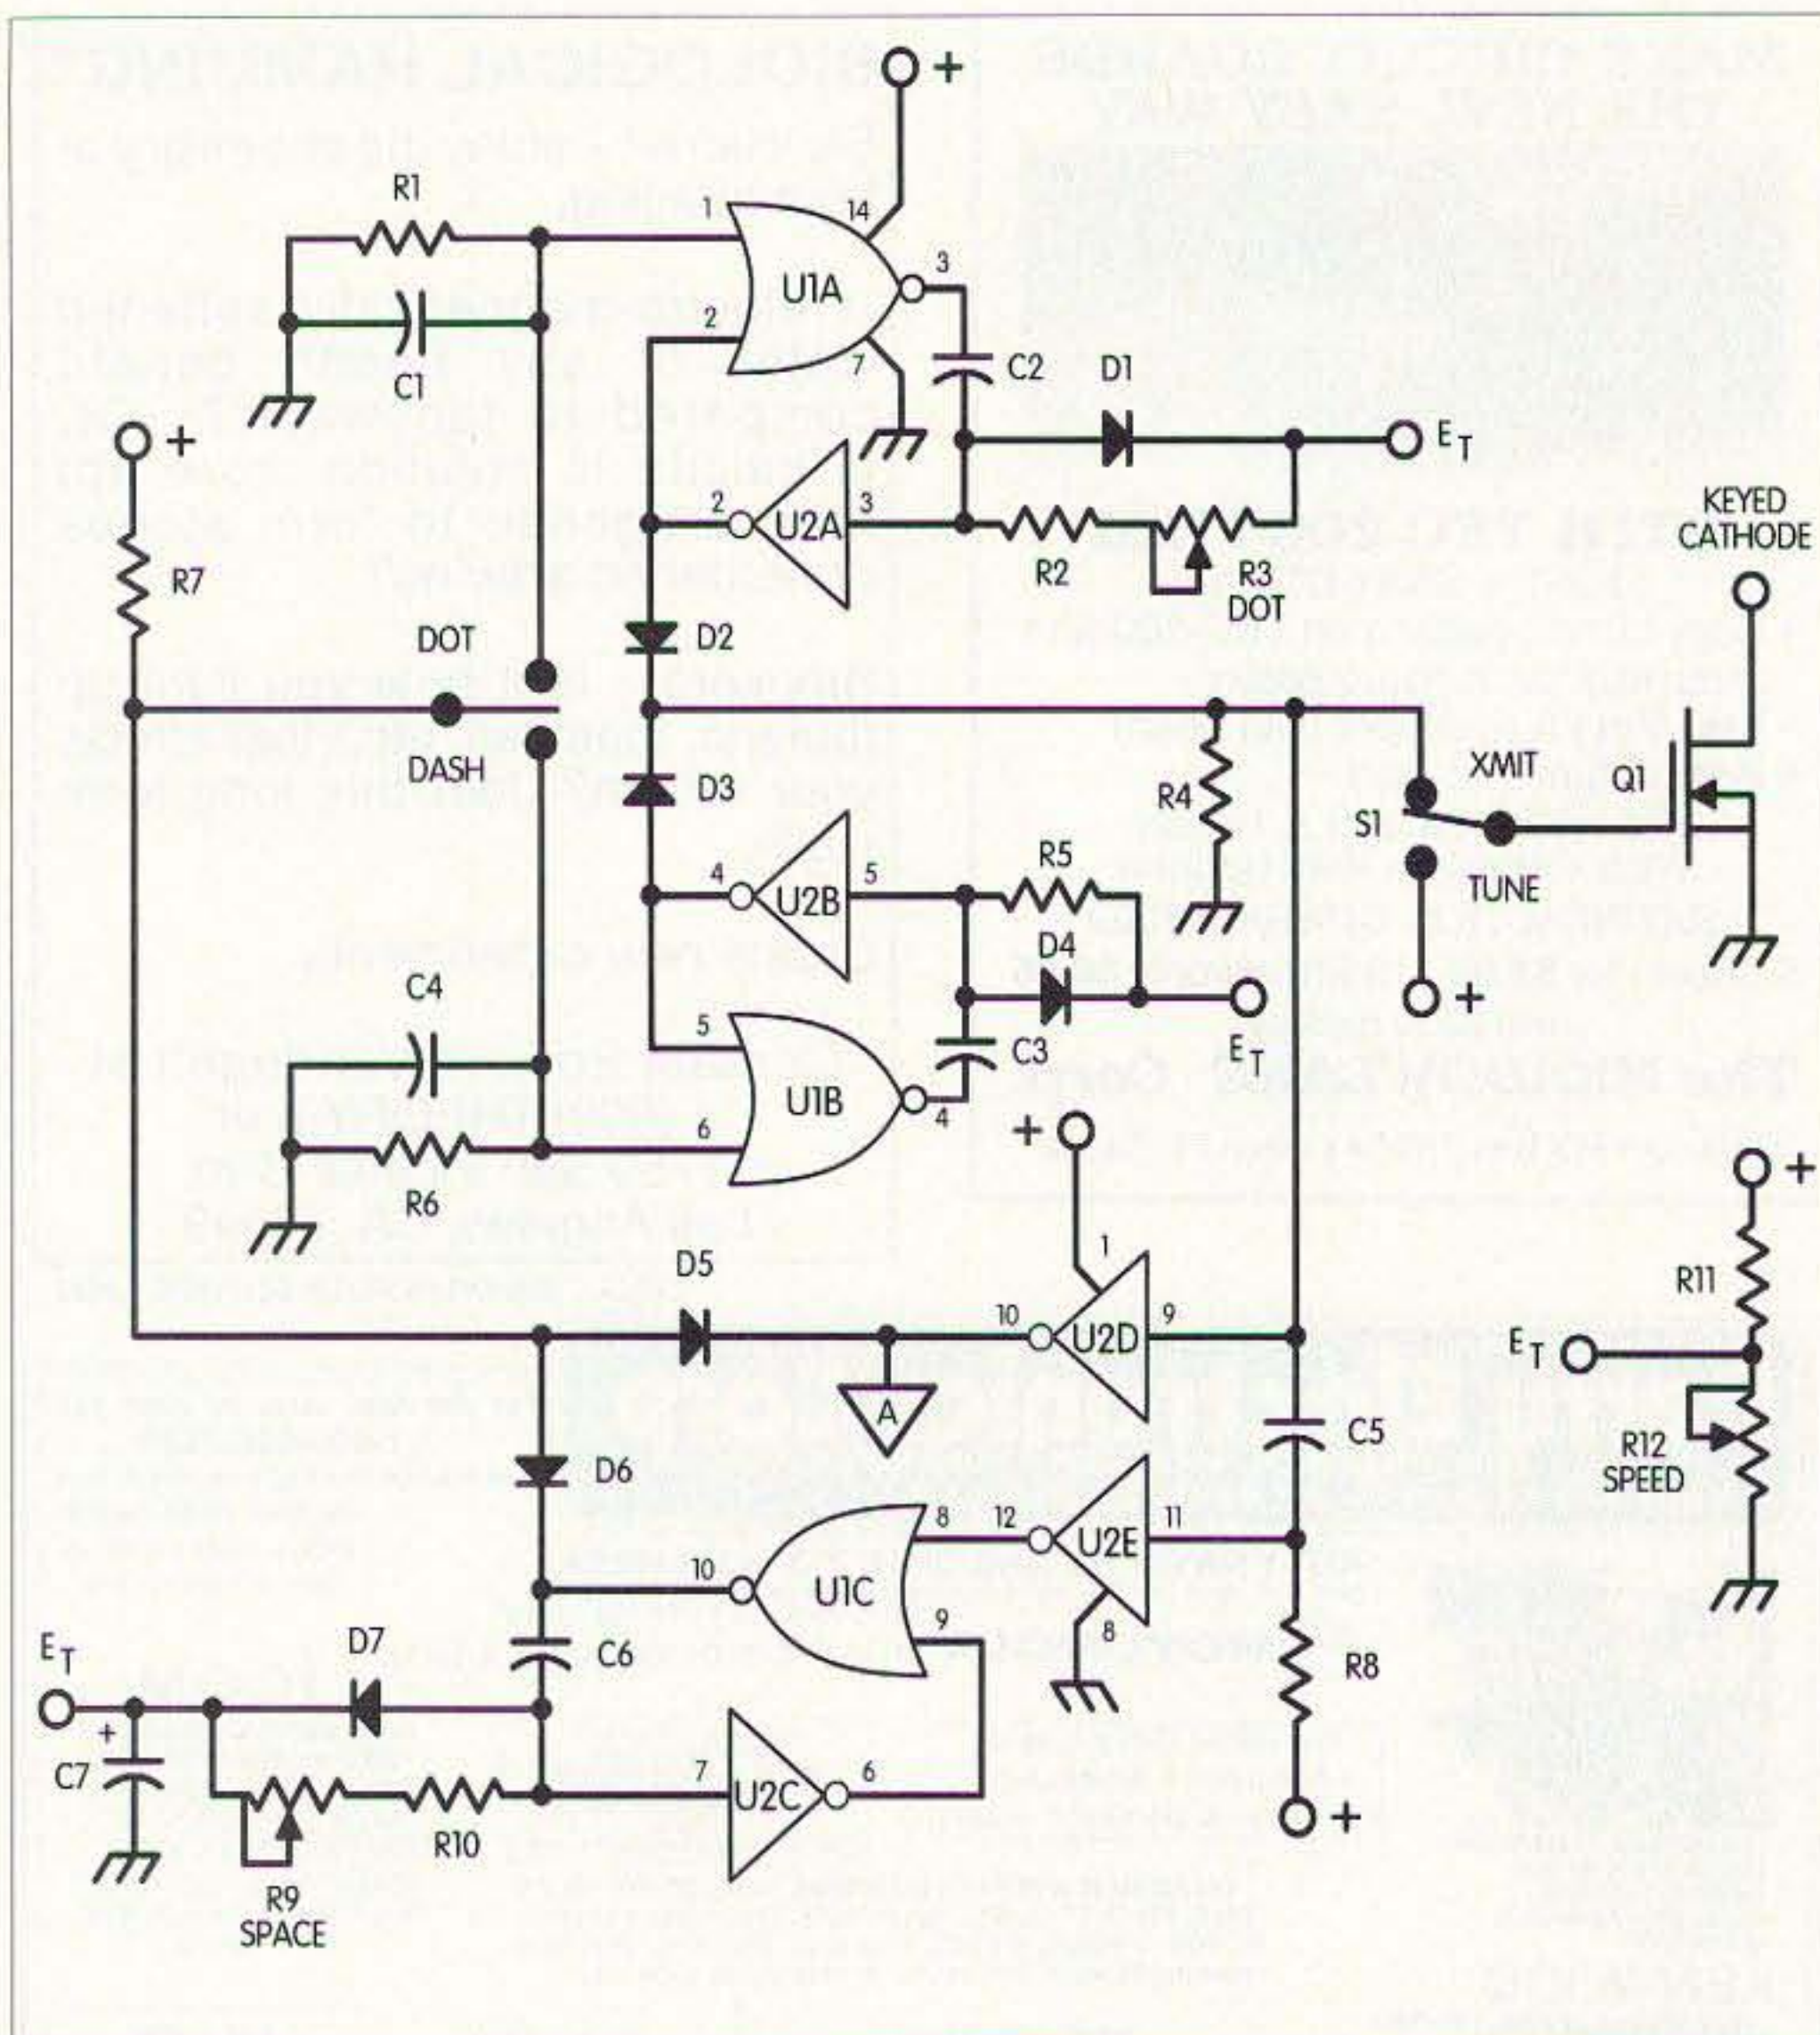
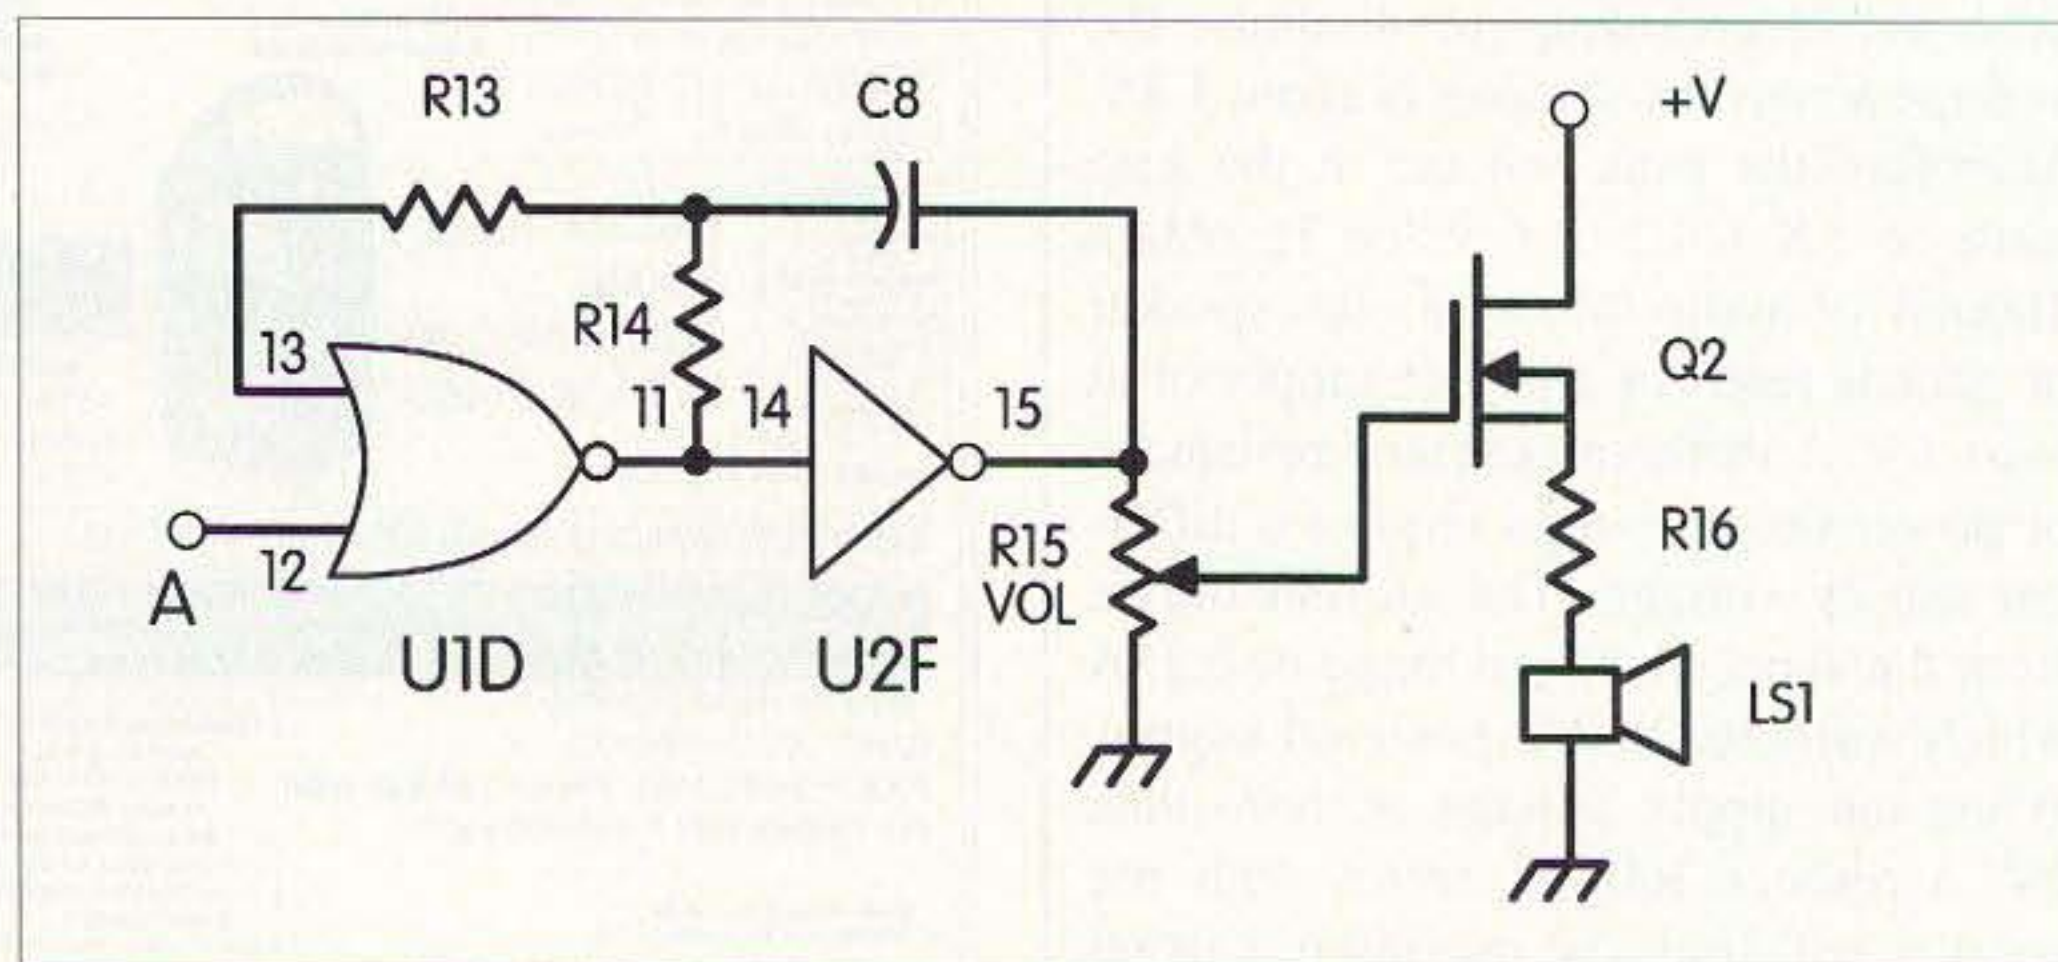

Fig. 3a. The keyer uses garden-variety CMOS ICs.
Fig. 3b. The sidetone generator is optional.
The electrical parts list for Fig. 3a and Fig. 3b is given in Table 2. Most of the parts are available from Radio Shack™, and those that are not in the retail catalog will be ordered by most Radio Shack stores from Radio Shack Unlimited. If your cupboard is bare and your local store won't order from Radio Shack Unlimited (RSU), equivalent parts can be obtained from almost any industrial electronics distributor. For example, Digi-Key, PO Box 677, Thief River Falls, MN 56701-0677; toll-free order number is (800) 344-4539.
Electrical Parts List for Figs. 3a and 3b
* Used only with the optional sidetone generator of Fig. 3b
Adjusting or tuning the transmitter can be done with a string of dots or dashes if the duty cycle is factored into the meter readings, 50% for dots and 75% for dashes. A "Tune" switch, S1 in Fig. 3a, allows the transmitter to be operated continuously for tuning and the transmitter's meters to be read directly.